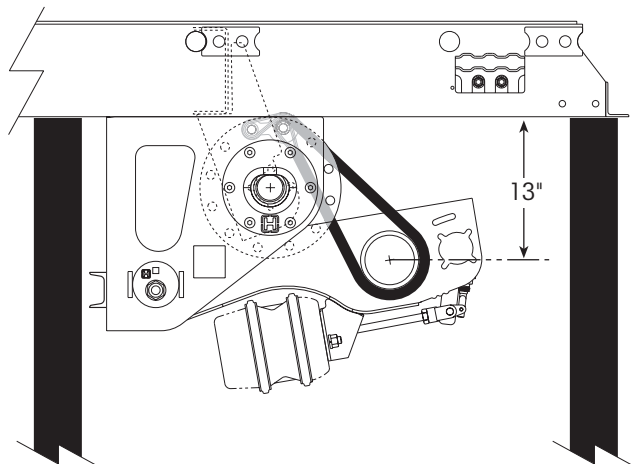

Figure 28. Checking axle lift height
- 14. Check the axle lift height. With personnel clear of the trailer suspension and the jack stands still in place, turn the trailer mode valve to the "R" position (rail mode). The trailer will lower slightly onto the jack stands and the torsion coil springs will cause the flange plate assembly to rotate counterclockwise, lifting the axle and wheels off of the ground. Ensure that the axle lifts to a 13-inch position (from the centerline of the axle to the bottom of the subframe) as shown in figure 28.